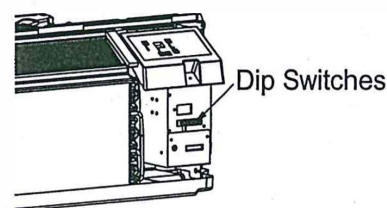

Fig.3
- Dip switches are accessible without opening the control box. See Fig.3.
- Pull out at the bottom to release it from the tabs ①.
- Then lift up ②.